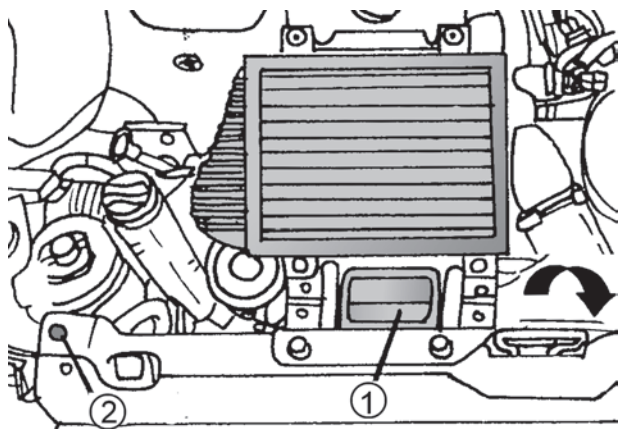

Fig. 1.9. – Details for the removal and installation of the charge air cooler of a 2.5 litre engine with the engine codes given in the text.
- In the case of a 5-cyl. engine with code letters AUF, AYC and ACV refer to Fig. 1.9 and remove the bracket for the charge air cooler. The cooler is now removed together with the charge air hoses. Two securing bolts (2) secure the charge air cooler on each side to the lock carrier.